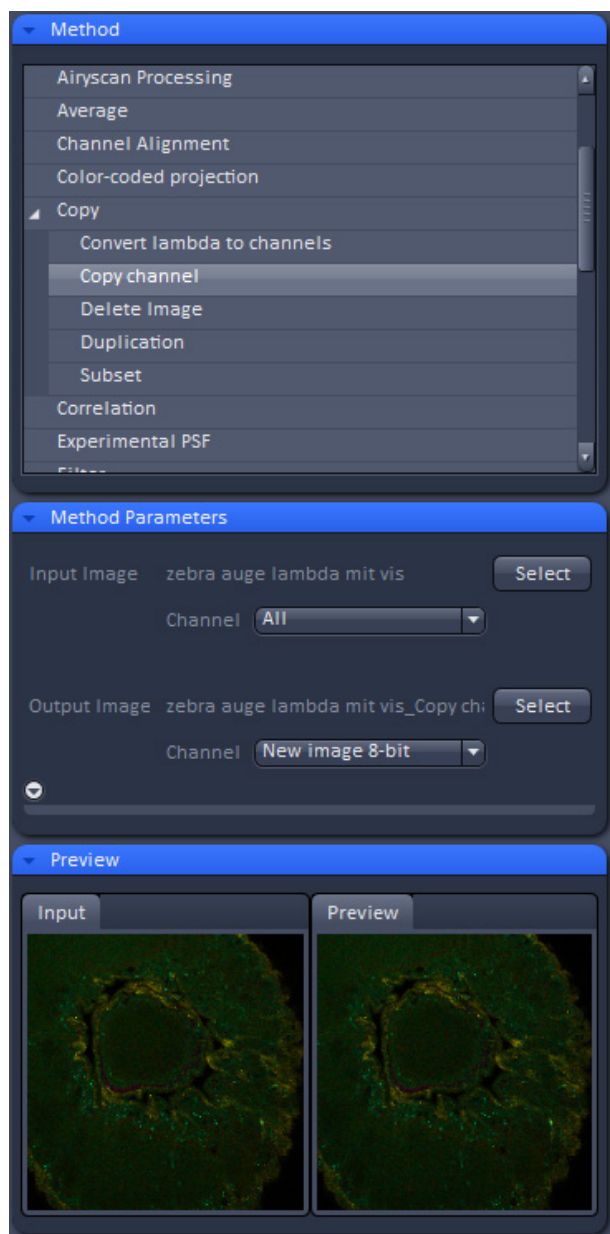

Fig. 536 Processing – Copy
**Convert lamda to channels** converts images acquired in Lamda Mode to multichannel images where each detector element represents a separate channel in the new image (Fig. 536). All view and processing options available for multichannel images apply to the new image.